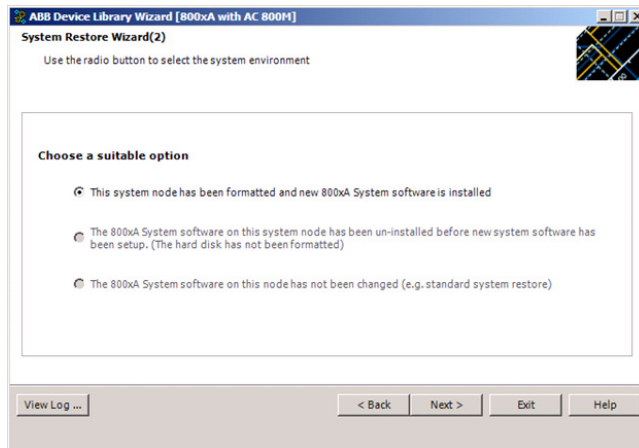

Figure 8. System Restore Wizard (2)
- Choose the first option as shown in Figure 8 and click **Next**.